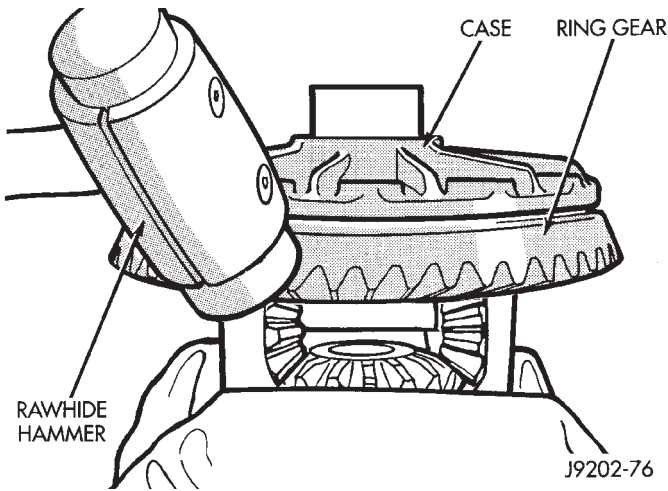

Fig. 5 Ring Gear Removal
(3) Remove **and discard** the ring gear bolts. Tap the ring gear with a rawhide mallet and remove (Fig. 5).